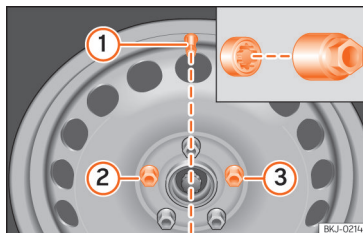

Fig. 191 Tyre change: tyre valve ① and the correct position for the anti-theft wheel locking bolt ② or ③.
On wheels with integral hubcaps, the anti-theft wheel locking bolt must be screwed in the positions >>> Fig. 191 ② o ③, taking as reference the position of the tyre valve ①. Otherwise it will not be possible to mount the hubcap.